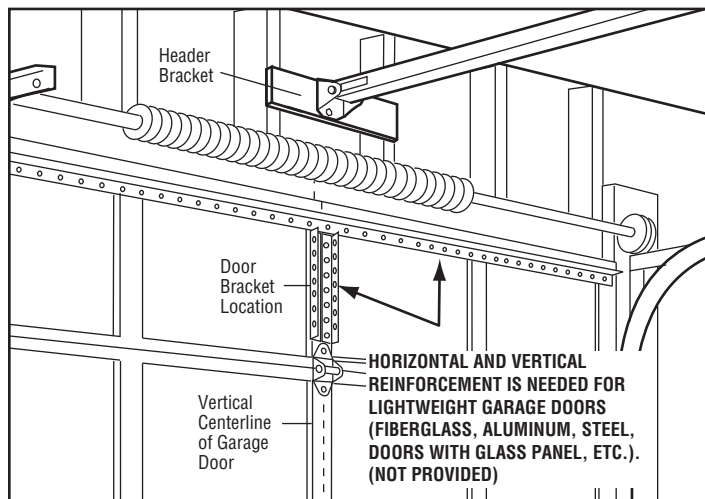

Figure 1
1. Make sure garage door is fully closed. Pull the emergency release handle to disconnect the outer trolley from the inner trolley. Slide the outer trolley back (away from the pulley) about 8" (20 cm) as shown in Figures 1, 2 and 3.